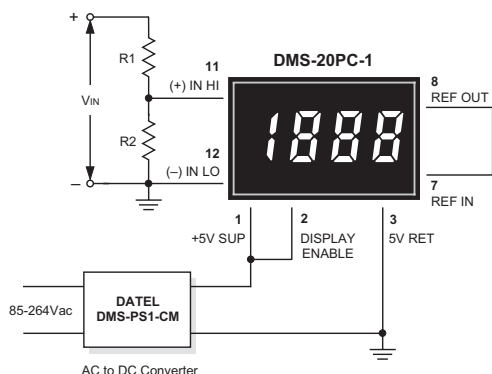

Figure 4. Input Attenuation Circuit
- 3. Engineering Scaling:** For measuring voltages greater than the full scale input range of a given meter, the input signal must be attenuated. A simple voltage divider (similar to that shown in Figure 4) will scale the input to within the range of the selected meter. R1 and R2 should be precision,  $\pm 1\%$ , metal-film resistors with absolute TCR's less than 50ppm/ $^{\circ}C$ . See Ap Note 4 for more information on engineering scaling.